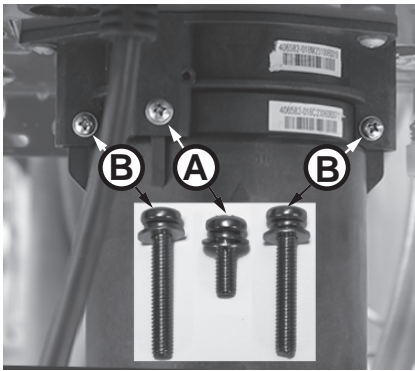

Figure 188 - Identify cartridge screws
5 Locate the three (3) screws securing the X3®/Bypass cartridge as shown in Figure 188. Remove the **(A)** M4-12mm screw and the two **(B)** M4-25mm screws from cartridge. Place screws aside in a safe place for reinstallation.